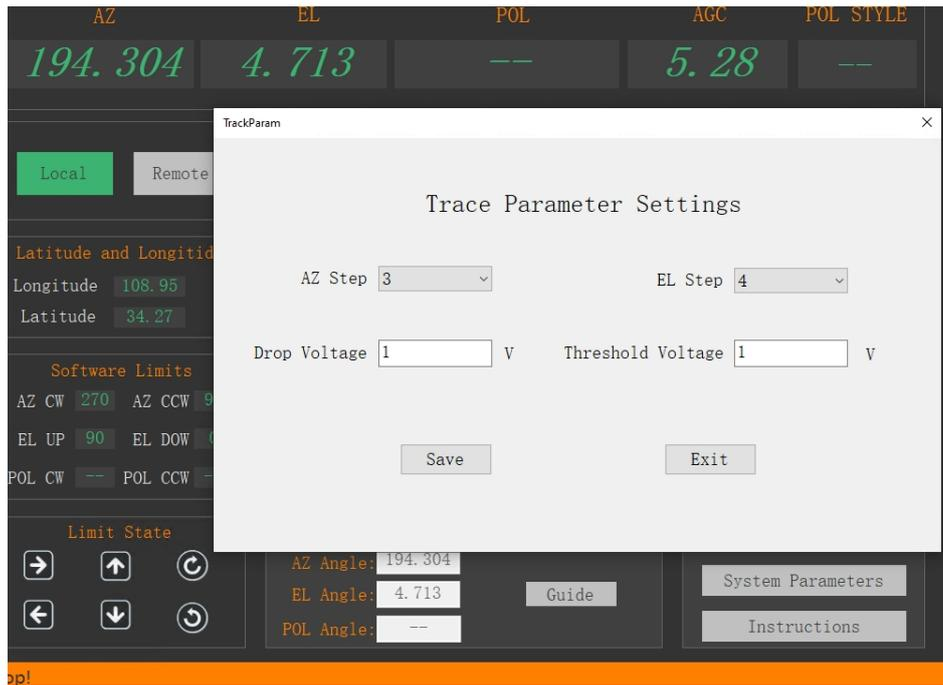

Figure 4-26 Auto Track
- ① Select “Track” (upper) firstly to activate the editable line (Track and Settings);
- ② Click “Settings”. Input the parameters and “Save”. as shown in Figure 4-26;
- ③ Click “Track” to start the tracking. The antenna starts to monitor the system AGC voltage. According to the current AGC value and the track parameters in the system settings, the antenna movement is to automatically start and stop;